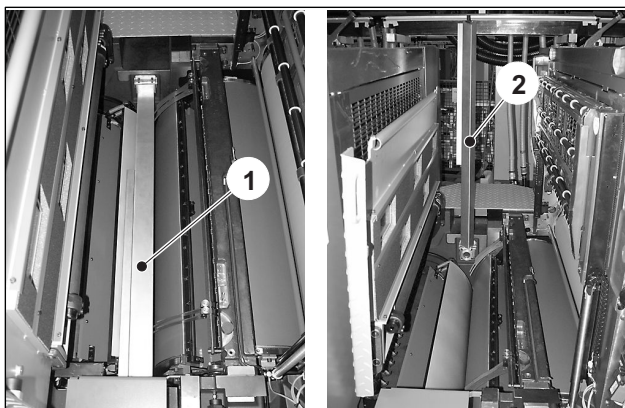

Fig. 21 Swinging up the blower bar
3. Lift the blower bar (Fig. 21/1) on O.S. out of its bracket and swing the blower bar toward D.S. and upward (Fig. 21/2).
8. Insert the blower bar into the printing unit (Fig. 21/2).
9. Swing the blower bar (Fig. 21/2) downward (Fig. 21/1) and guide the blower bar into the bracket on O.S.